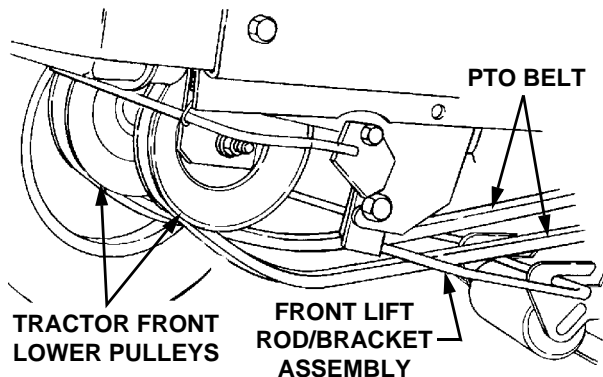

Figure 60
- Twist the two sides of the PTO belt 1/4 turn inward to engage the narrow sides of the belt into the grooves of the two tractor front-lower pulleys (Refer to Figure 60).